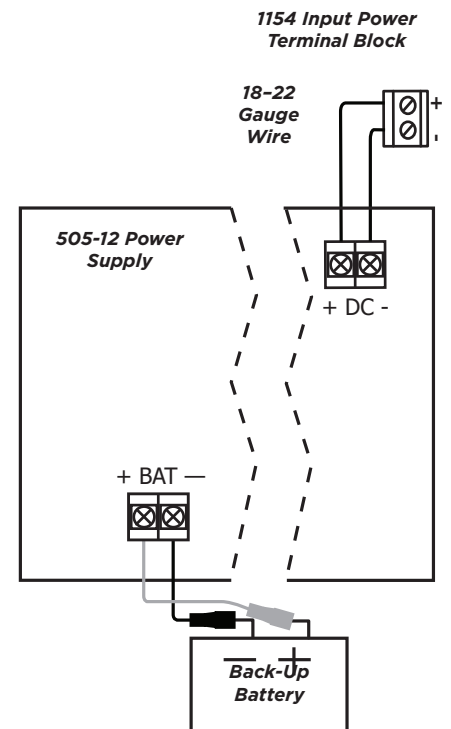

Figure 5: External 12 VDC Power Supply
2. Observing the polarity of all wired connections, use 18-22 gauge wire to connect the 1154's input power terminal block to the **+ DC -** terminal on the 505-12 power supply. See Figure 5